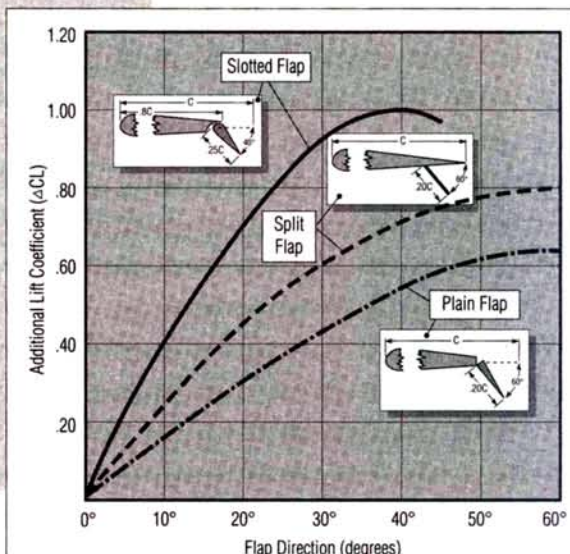
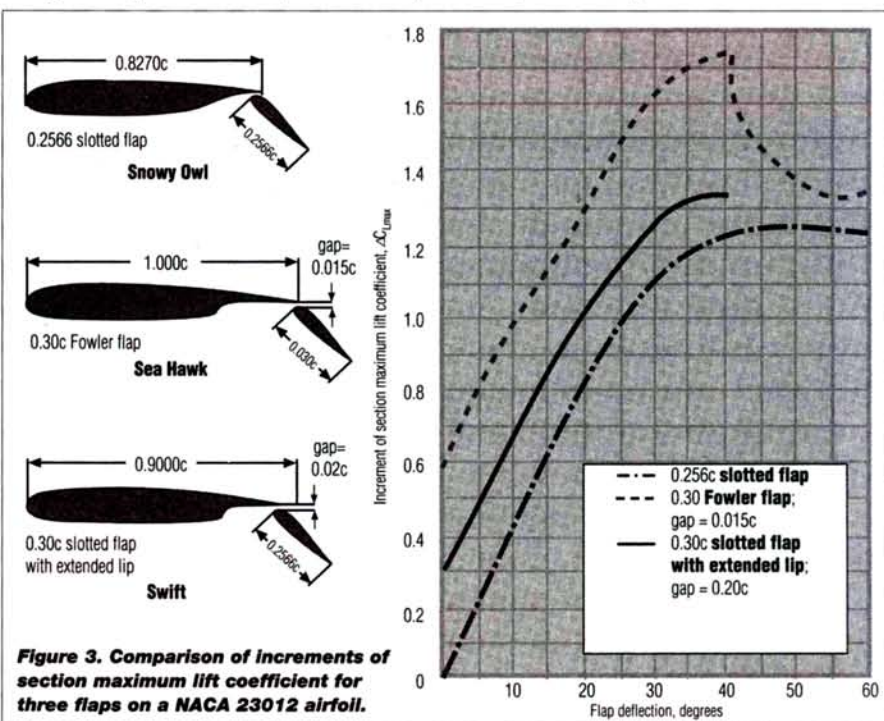

Figure 2. Additional flap lift at various deflections.
Figure 3. Comparison of increments of section maximum lift coefficient for three flaps on a NACA 23012 airfoil.
• **Wing trailing-edge high-lift devices.** Figure 2 (from reference 2) and Figure 3 describe and show the additional lift pro-
fixed slots, was illustrated in Figure 3 of "High-Lift Devices and Drag Reduction" in the May '96 issue.) Though the Fowler flap provides greater lift, its backward and downward motion demands complex pivoting arms (reference 15) or other mechanisms and powerful servos. Note that in Figure 3, the incremental lift coefficients are for full scale; in Figure 2, they are reduced by scale effect.